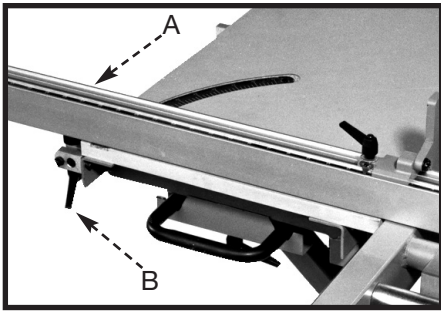

Fig. 58
1. With the fence (A) Fig. 58 in the forward operating position on the sliding table, loosen both fence locking handles, one of which is shown at (B). Pull the left end of fence as far toward the front as possible and tighten both locking handles (B).